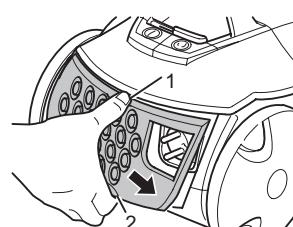

Fig.25
5. Then put the exhaust filter cover back again. First hook this in from the top (Fig. 25/1) and then press it down (Fig. 25/2) until it clicks audibly and noticeably into place.